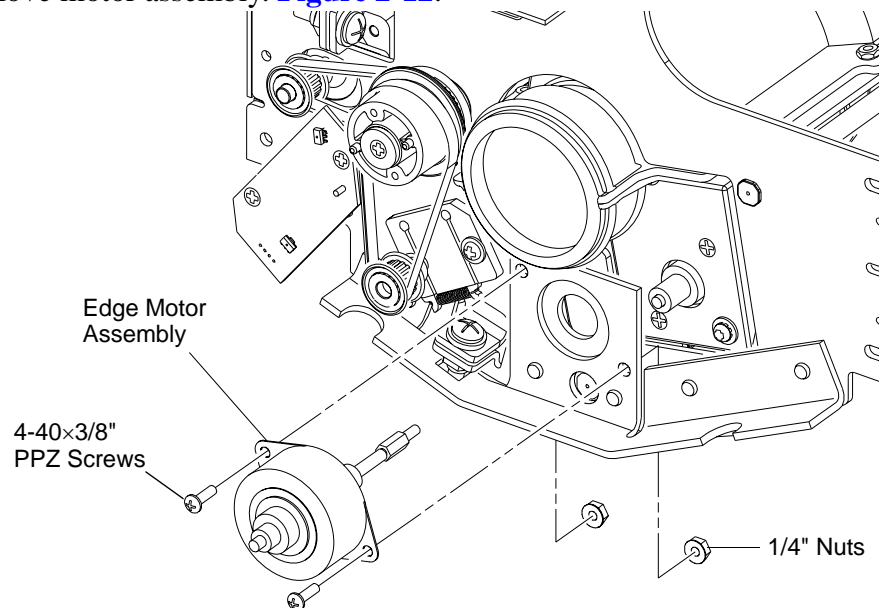

Figure 2-12: Edge Motor Assembly Replacement
- Step 7. Remove two 4-40×3/8" PPZ screws and nuts which secure motor to bulkhead and remove motor assembly. **Figure 2-12.**